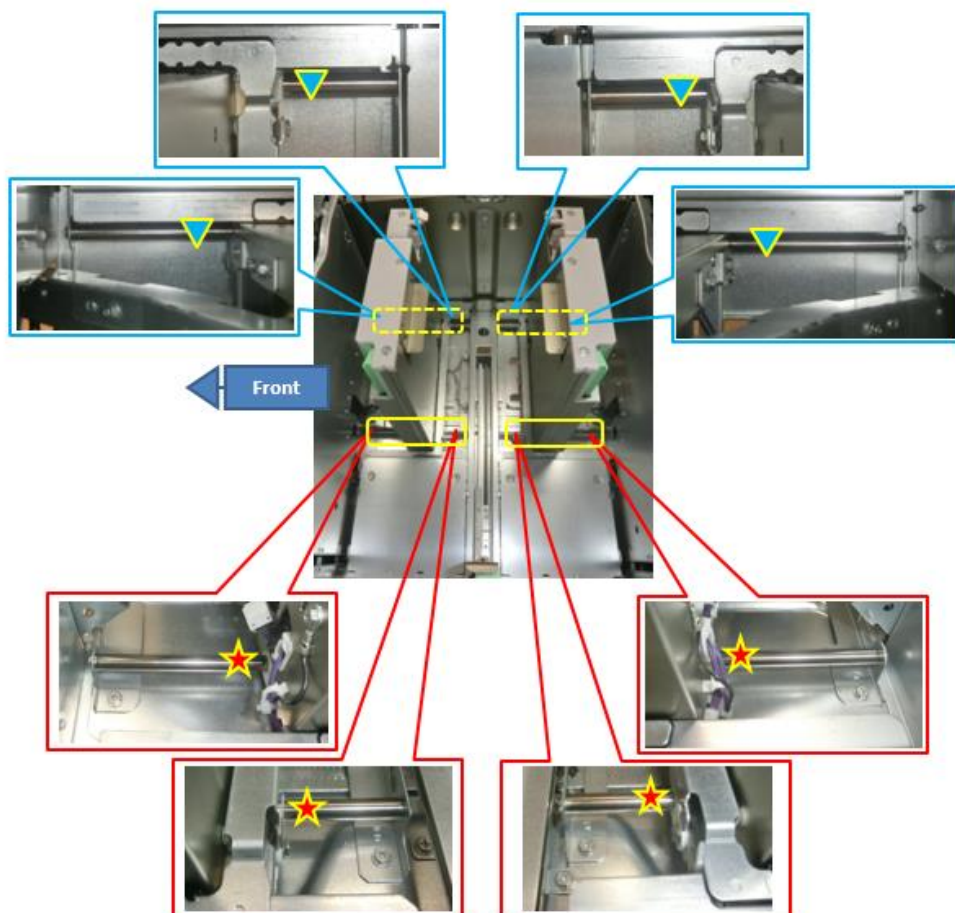

Fig. 5
6. Apply small drops of engine oil to the shaft in the areas shown in Fig. 5 (marked by red stars).